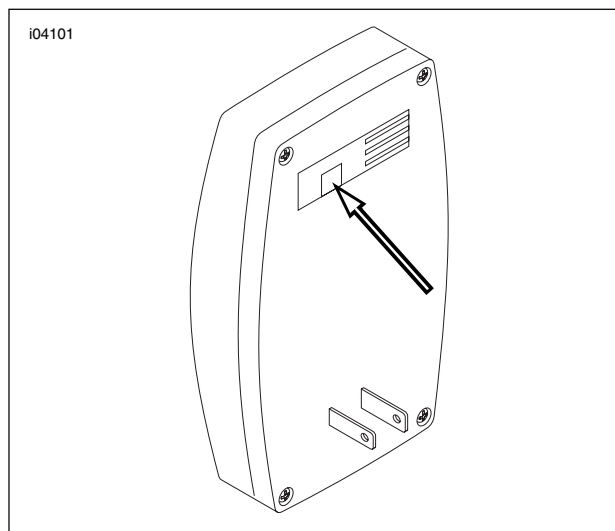

Figure 8-4. Garage Door Opener Receiver, Back View
7. See Figure 8-4. Plug connector on Harley-Davidson garage-door opener receiver wires into back of Harley-Davidson garage-door opener receiver.